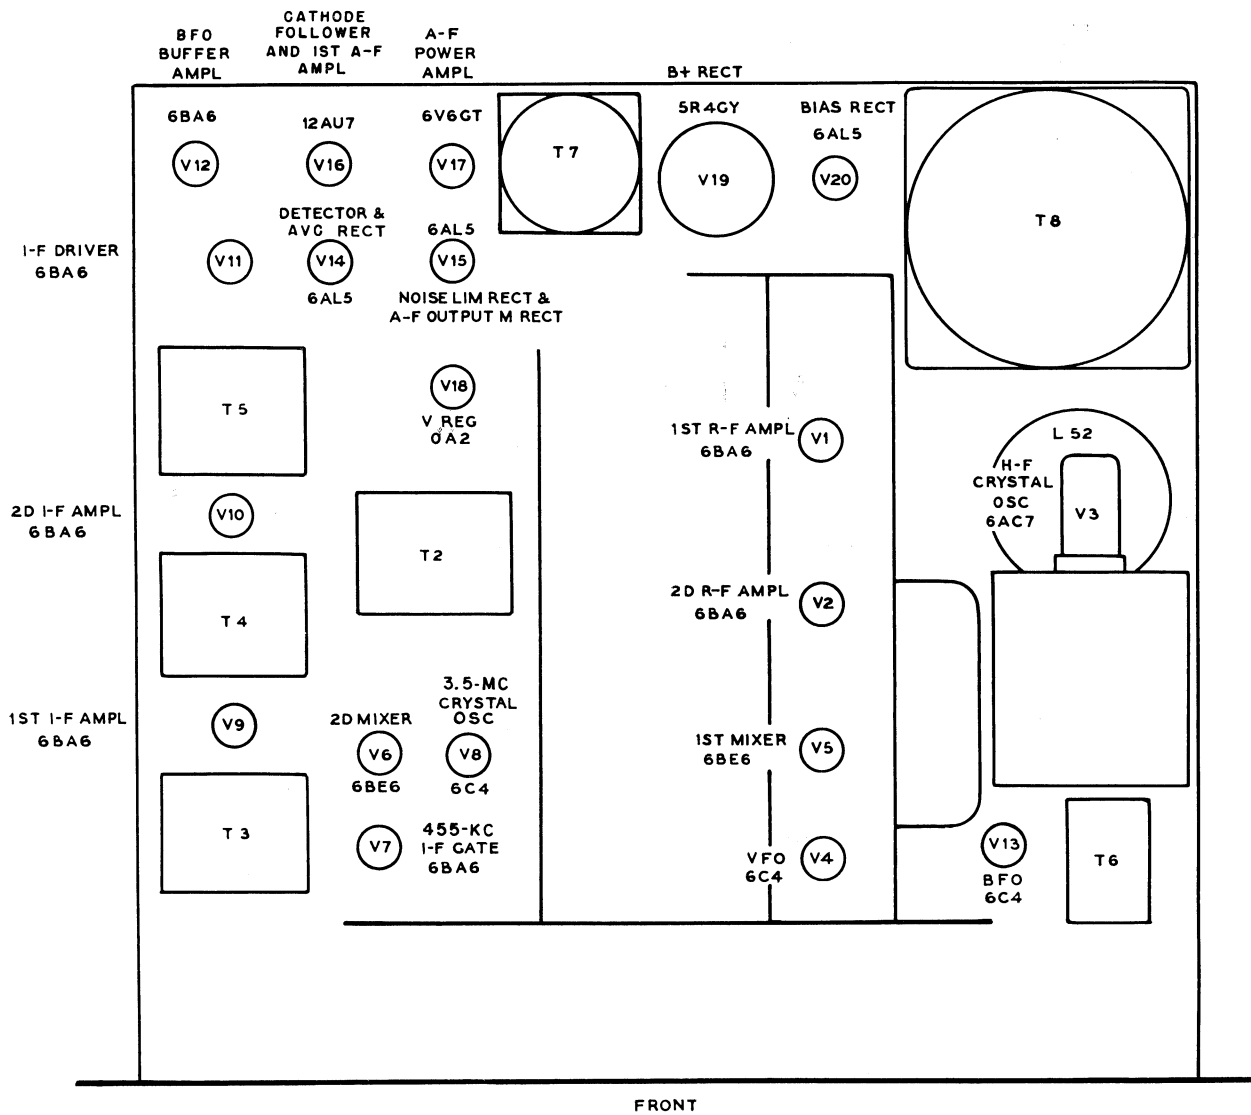

Figure 13. Radio Receivers R-274A/FRR and R-274C/FRR, tube location.
b. Open the top hinged cover of the table cabinet or remove the rack-mounting top cover, as applicable, and see that all tubes are seated firmly in their proper sockets (figs. 13 and 14).